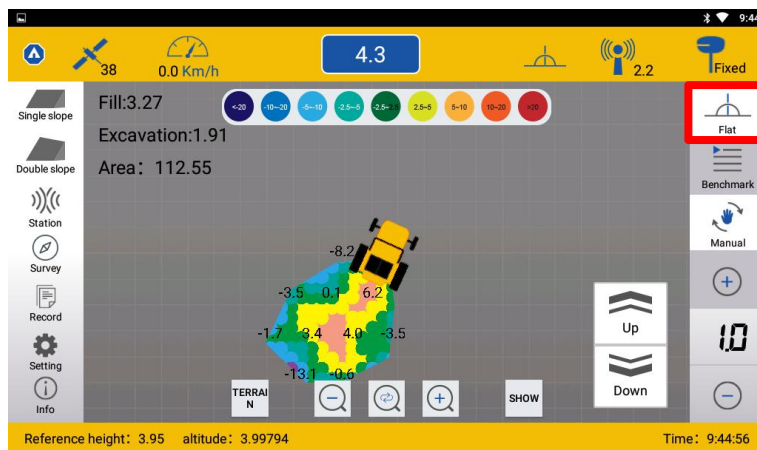

Figure 24
Step6. Select Flat or Slope mode and start working. (Figure 24)